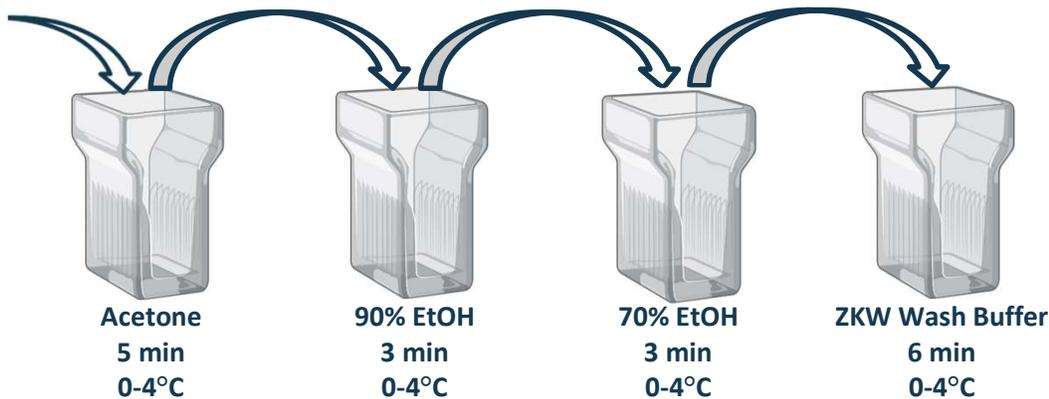

Fig. 2 | Illustration of Tissue Fixation on Coverslip through Coplin Staining Jars
1. Prepare four Coplin staining jars (Fig. 2) and separately fill each with acetone, 90% ethanol, 70% ethanol, and ZELLKRAFTWERK wash buffer.